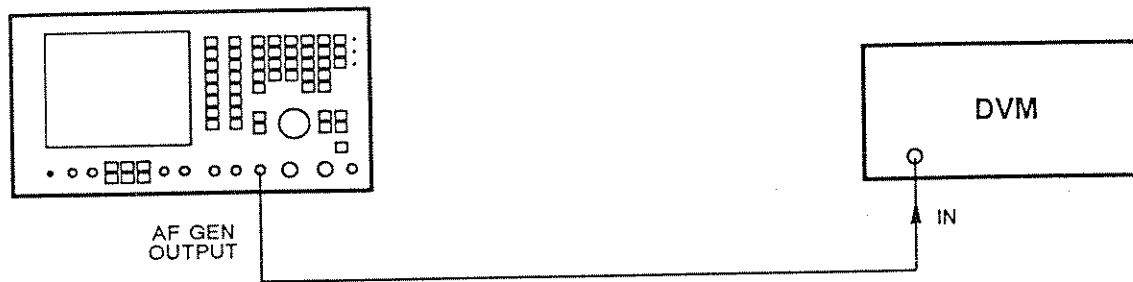

Fig. 6-12 Test equipment connections for AF generator output level accuracy
- (1) Connect the DVM to the AF GEN OUTPUT socket. See Fig. 6-12.
- (2) On the 2955B, set the MODE to AUDIO TEST. Ensure that GEN 1 is ON and GEN 2 is OFF. Press the TONES and AUDIO SETUP keys. Set the GEN 1 FREQ to 1 kHz, LEVEL to 1 V and SHAPE to SINE.
- (3) Check that the voltmeter reading is the same as the GEN FREQ setting $\pm 5\% \pm 1$ step.